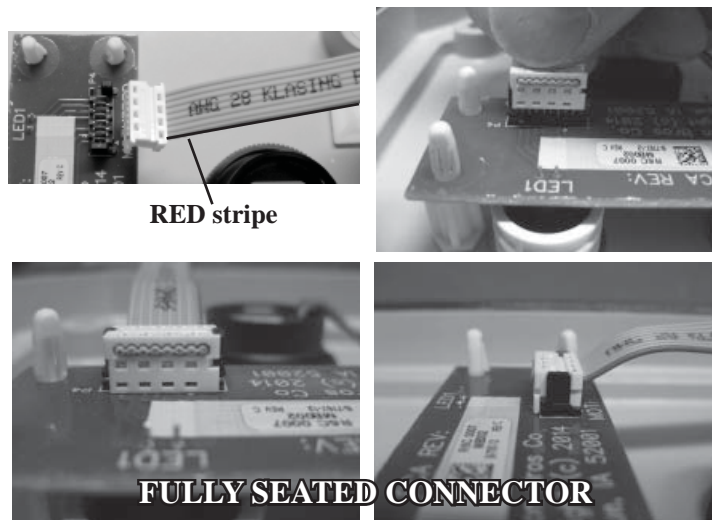

Figure 19 - Connecting the CABLE to the INDICATOR BOARD
1. Orient the Ribbon Cable so that the RED stripe is closest the buzzer and the mating side of the connector at the Indicator Board is facing P4 of the Indicator Board as shown in Figure 19. **Be sure to fully seat the connector.**